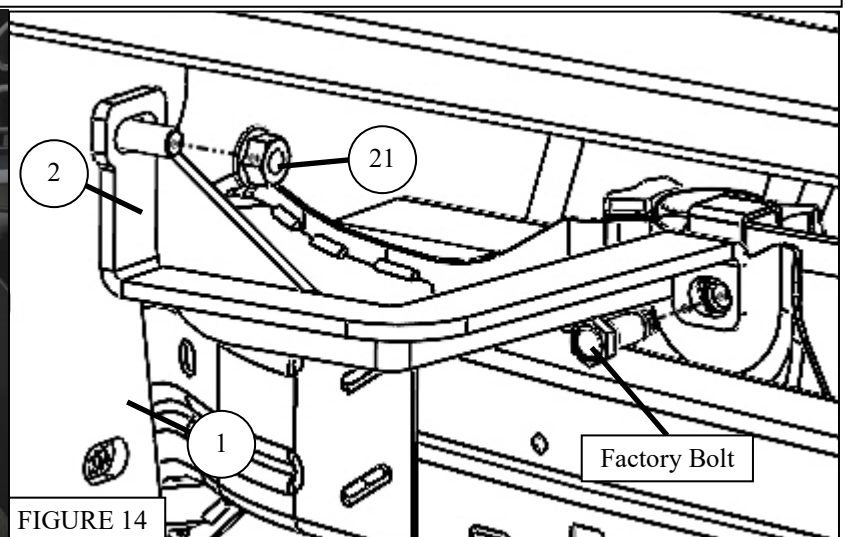

FIGURE 14
20. Remove the factory bolt shown in **Figure 14** and save it to be used in the next step.
17. Place the upper brackets into the holes and install them using the previously removed bolts. (**Figure 14**) leave them loose for now.